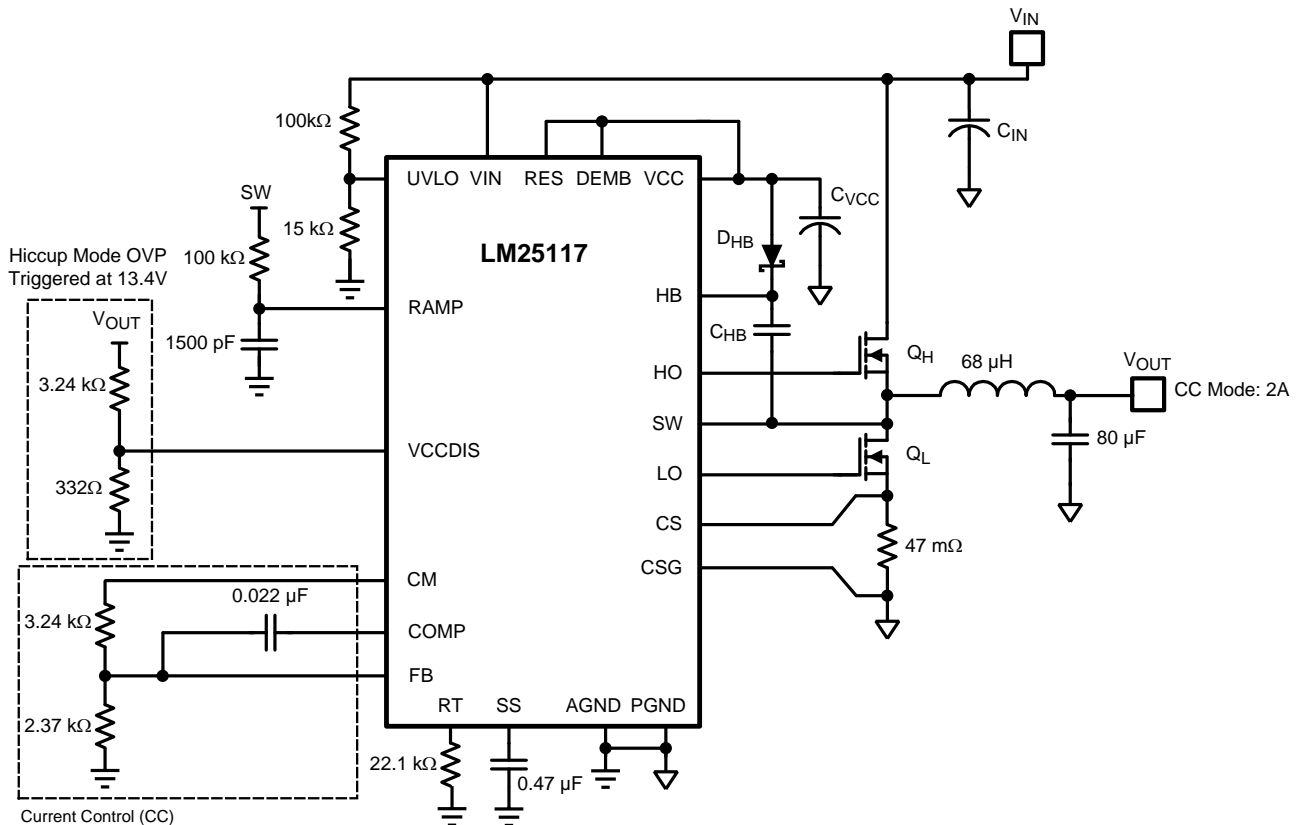

Figure 36. Constant Current Regulator with Hiccup Mode Output OVP
The LM25117 can be configured as a constant current regulator by using the current monitor feature (CM) as the feedback input. A voltage divider at the VCCDIS pin from VOUT to AGND can be used to protect against output over-voltage. When the VCCDIS pin voltage is greater than the VCCDIS threshold, the controller disables the VCC regulator and the VCC pin voltage decays. When the VCC pin voltage is less than the VCC UV threshold, both HO and LO outputs stop switching. Due to the time delay required for VCC to decay below the VCC UV threshold, the over-voltage protection operates in hiccup mode. See Figure 36.